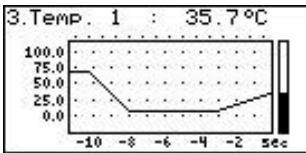

Fig. 6.3. "graph" mode
- "Graph" mode (Fig. 6.3) enables the momentary values or averaged values of measurements conducted for one of measurement channels to be viewed in the form of agraph.